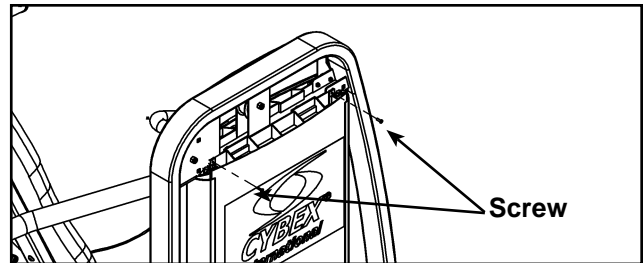

Figure 15
- Install the top two screws securing the back shroud. See Figure 15.